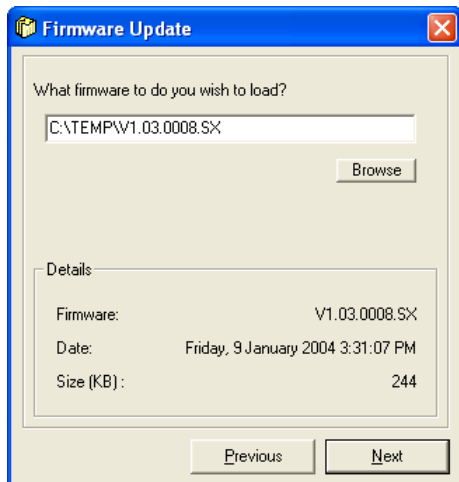

Figure 36 – File window
6. Verify its details in the Details window as shown in Figure 36.